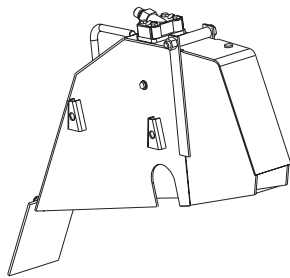

Figure 14. Blade Guard
**NEVER** operate the saw without blade guards and covers (Figures 14 and 15) in place. **DO NOT** operate with the front of the blade guard raised. The blade exposure cannot exceed 180 degrees during operations. Adhere to the safety guidelines of the **American National Standards Institute (ANSI) B7.1 and B7.5**.